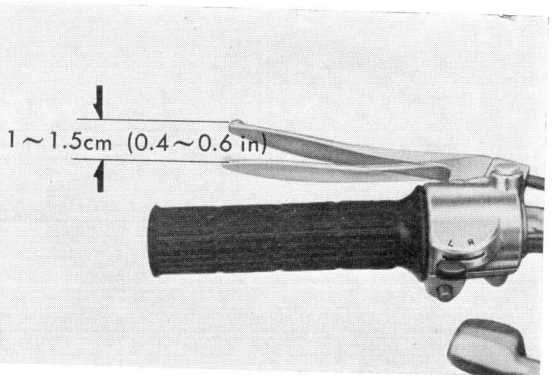

Figure 6-23. Clutch lever free play
- There should be 1 to 1.5cm (0.4~0.6 in) of free play in the clutch lever before the clutch starts to disengage. (Fig. 6-23)